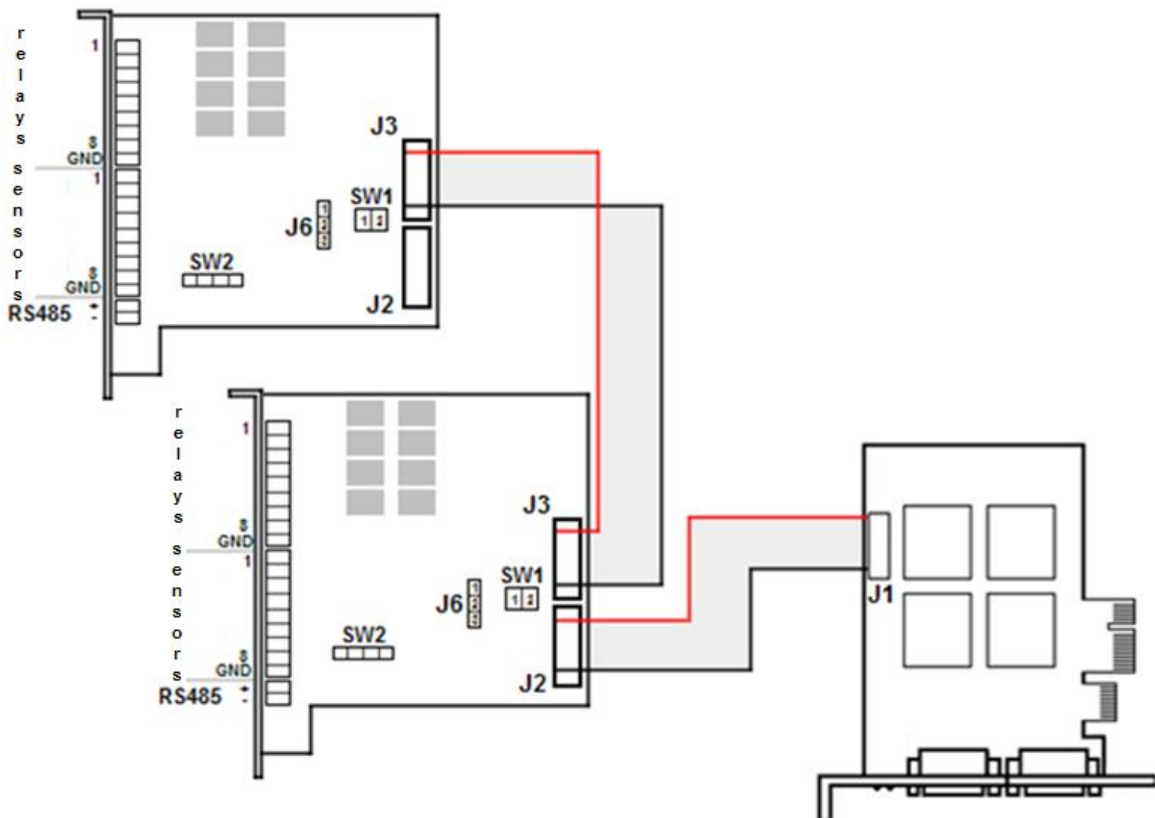

Figure 2.4-19 Connection of DI/DO card to Stretch VRC6416 card
1. Change the SW1 switch on DI/DO card (Figure 2.4-19) in accordance with Table 2.4-2.
2. If DI needs a power supply (active sensors), then put the J6 jumper on 2 and 3 contacts, otherwise – on 1 and 2 contacts (passive sensors) (Figure 2.4-19).
4. Connect the DI/DO card to the video capture card with the help of a loop included in the distribution kit. The loop is connected to the J1 and J2 pins (see Figure 2.4-19 and *Appendix 5. Video capture cards pins section*).
5. If it is necessary connect one more DI/DO card. Connect the loop to the J3 pin on the first and second DI/DO card (Figure 2.4-19).
7. Connect DI and DO in accordance with the pinout of external pin of the DI/DO card (Figure 2.4-19).